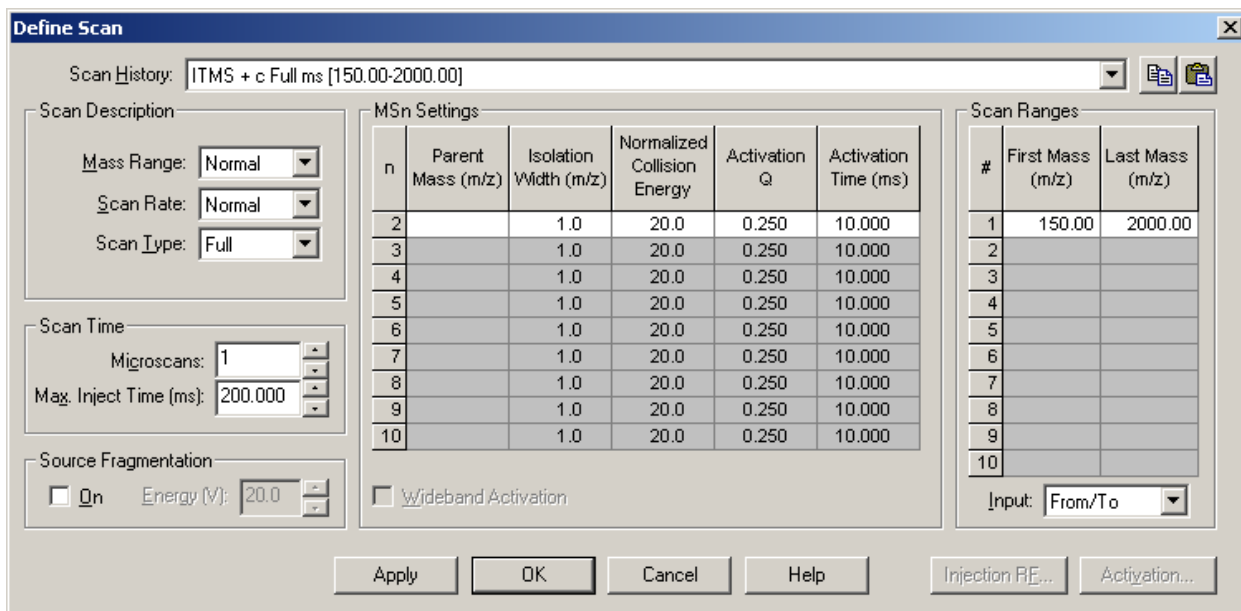

Figure 3-5. Define Scan dialog box, showing the default settings for ESI/MS operation
- a. On the Control/Scan Mode toolbar, click on the Define Scan button to open the Define Scan dialog box. See Figure 3-5. (If your dialog box appears different from the one shown in the figure, it is probably because the advanced settings are not displayed. You can turn on the advanced settings as follows: In Tune Plus, choose **ScanMode**, and then click on *Advanced Scan Features* to select the option.)
- k. Ensure that the settings in your Define Scan dialog box are the same as those shown in Figure 3-5.